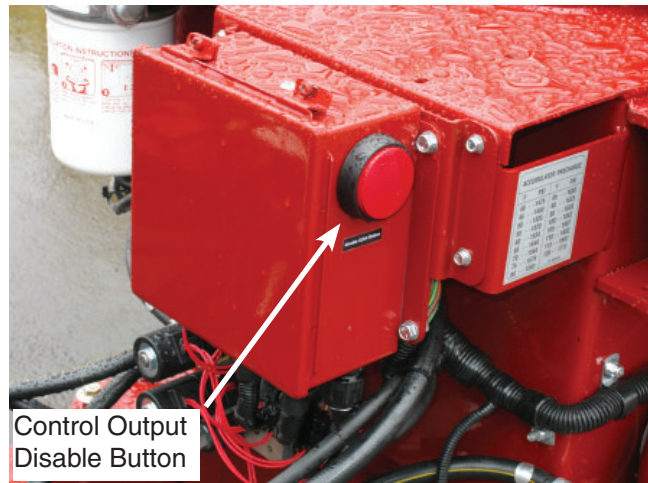

Figure 1 - Disable ICM Button
10. NORMAL OPERATION/STOP Indicator Lights Baler is in normal operational mode when the blue check mark is illuminated. A red STOP will illuminate when the Control Output Disable button (See Figure 1 Page 3) on the baler has been pressed and when the baler is powered on. Control Output Disable button cuts power to all ICM outputs. Press and hold F4 button to return baler to normal operation mode.